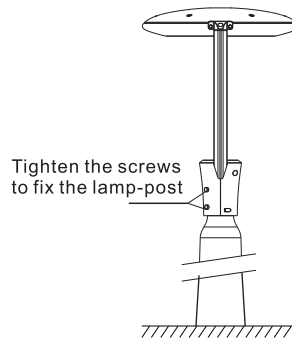

Figure 5
5. Install the lamp to the pole, adjust the viewing angle, then tighten the screw by wrench. (Figure 5)